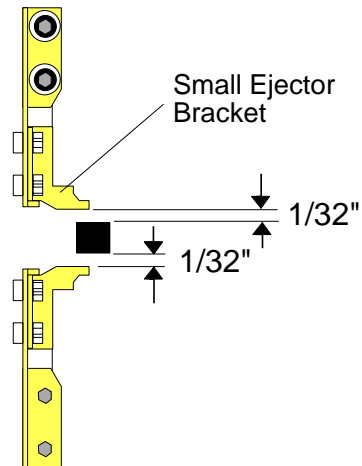

Figure 12 Adjust Small Ejector Bracket
- b. Align center line of component body between small ejector brackets as illustrated in Figure 12.